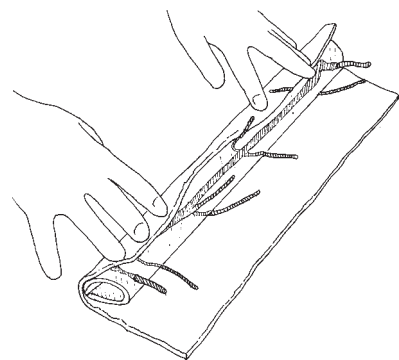

fig 13
5. Roll the connective tissue around the tube **fig 13.**